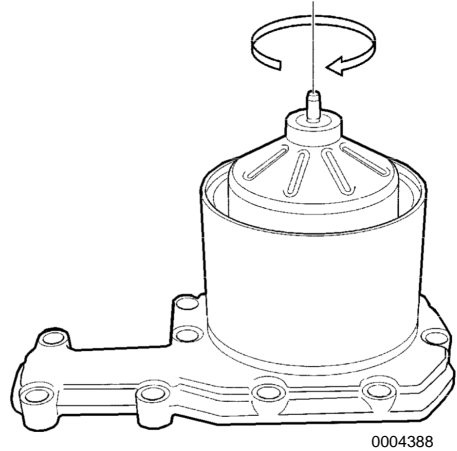

Figure 10
- Install the rotor. Turn the rotor by hand to make sure that it rotates easily (**Figure 10**).